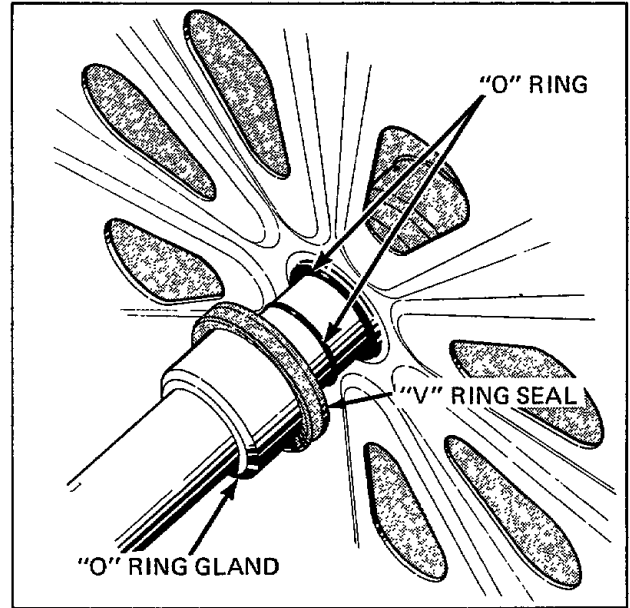

Figure 42
- r. Remove "O" ring gland and two "O" rings from cylinder shaft, *Figure 42*.
- s. Starting with serial number W11835: Remove "v" ring seal from "o" ring gland, *Figure 42*.